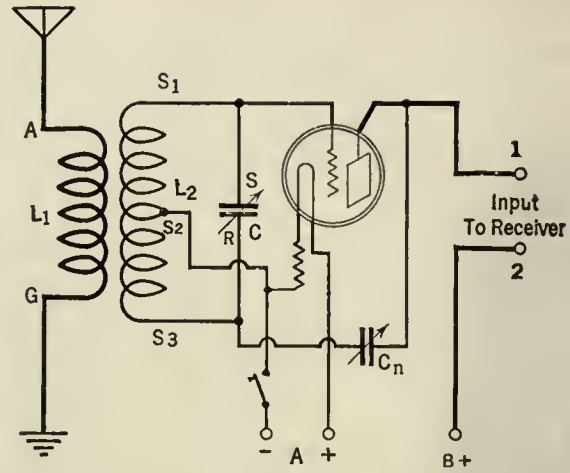
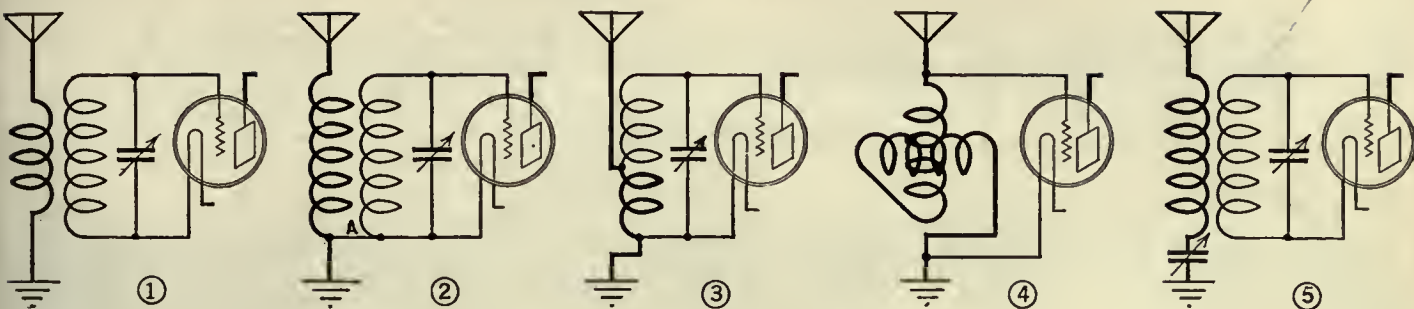
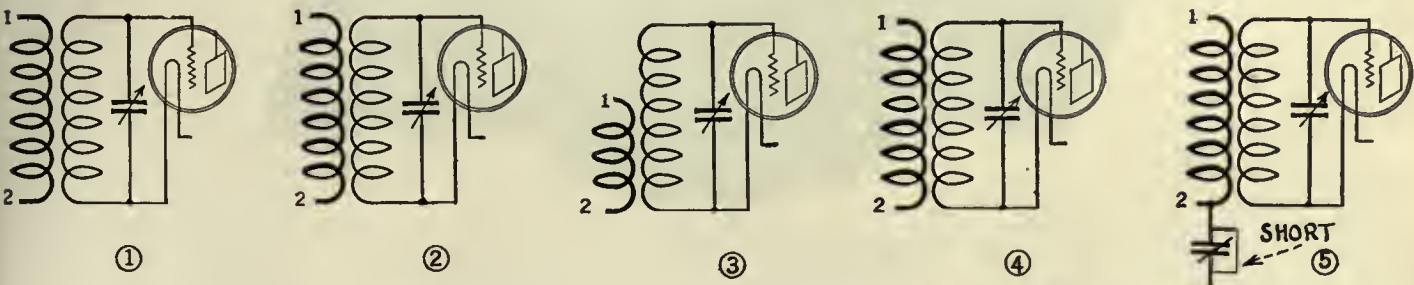

FIG. 7
FIG. 8
FIG. 11
The major reason for using the General Radio instrument in taking the data contained in this article was that it uses a calibrated condenser, which was essential in making these measurements. After the tests with the General Radio and other wave traps mentioned above, a home made trap was tried and results were quite satisfactory in every way. A home made unit, very easy to build, is illustrated in Fig. 8.
A home-made radio-frequency unit adapted for use in this connection is shown in Fig. 7. This design proved to be excellent from the standpoint of adaptability to existing receivers with a minimum number of changes. The completed unit is shown in Figs. 8 and 9. It was constructed in the Laboratory.
One of the diagrams in this Figure is the type of antenna connection used in your receiver. The diagram Fig. 11 shows the adaptation necessary to include an r. f. amplifier-wave trap.
illustrated in Fig. 8. In Fig. 11, we have revised these circuits so as to indicate what changes are necessary in order to attach the radio frequency amplifier. Readers should determine what type of antenna circuit is used in their receiver and then locate it in Fig. 8. The numeral preceding the notes given below refers to Fig. 8 so that the notes concerned with any of the circuits can readily be found.
Apparatus layout of the radio-frequency amplifier Refer to Fig. 7 for the schematic diagram of this unit
(4) Practically the only method of adapting the circuit to the amplifier is by removing the variometer and substituting in its place a coil of the same type as in the former circuits. Revised, it appears as in No. 4 Fig. 11.
(5) This circuit is very easily changed over. Connect terminal No. 1 to the antenna terminal on the receiver. Terminal No. 2 should connect to the other end of the antenna coil. An optional method is illustrated in Fig. 11 where the antenna tuning condenser C has been shunted and connection made directly to the ground terminal.
Another photograph of the amplifier illustrated in Fig. 8